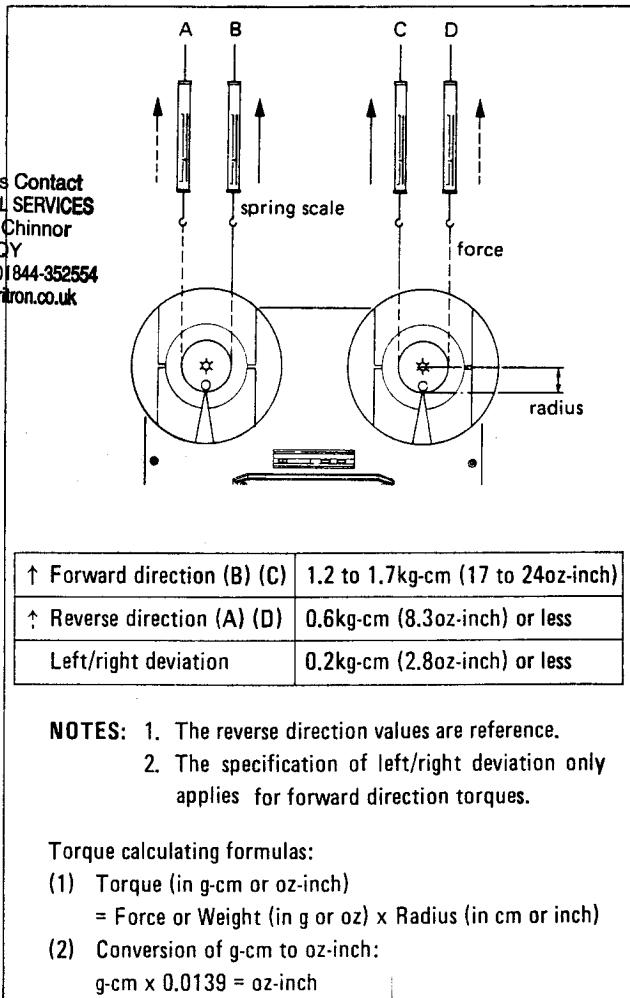

Fig. 2-3
- Do steps 1 and 2 for each measuring condition, (A) through (D) in Fig. 2-3.
- The values are as chart in Fig. 2-3.